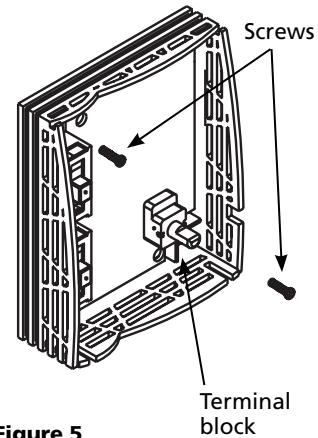

Figure 5
4. Drill holes in the wall through the 2 mounting holes in the back of the thermostat cabinet as shown in Figure 5 and insert anchors into the holes.